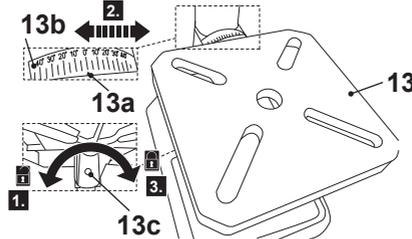

Fig. 11
1. Slightly loosen the hex bolt (13c) anticlockwise underneath the drill table (13) with a suitable hex key (Size 10 mm) (Fig. 11, step 1).
2. Tilt the drill table (13) until the pointer line (13a) aligns with the desired angle on the angle scale (13b) (Fig. 11, step 2).
3. Tighten the hex bolt (13c) clockwise afterwards (Fig. 11, step 3).